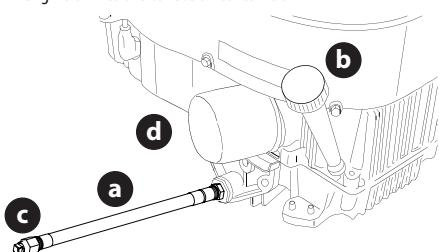

Figure 36
3. While holding the free end of the oil drain hose over the oil collection container, unscrew the square head hose plug (c) from the end of the oil drain hose (Figure 36). Drain the engine oil into the collection container.
1. Locate the oil drain hose (a) on the side of the engine (Figure 36).
2. Place an appropriate oil collection container with at least a 2.5 quart (2.37 liter) capacity below the opening of the oil drain hose, to collect the used oil. Remove the oil fill cap/dipstick (b) from the oil fill tube (Figure 36).